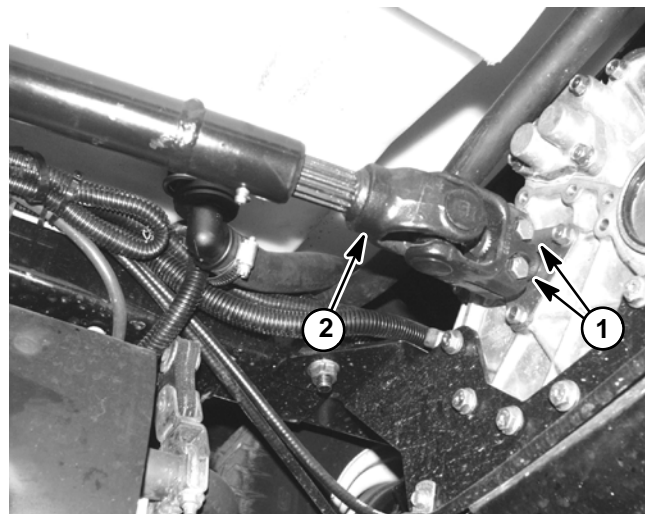

Figure 33
13. Loosen and remove cap screws and lock nuts that secure universal joint of transaxle driveshaft to input shaft of transaxle (Fig. 33). Disconnect driveshaft from transaxle input shaft.
14. Support transaxle to prevent it from shifting or falling. Remove four (4) flange nuts that secure transaxle mounts to machine frame. Lower transaxle with mounts from machine.
- D. Install cap screws and lock nuts to secure driveshaft to transaxle input shaft (Fig. 33).